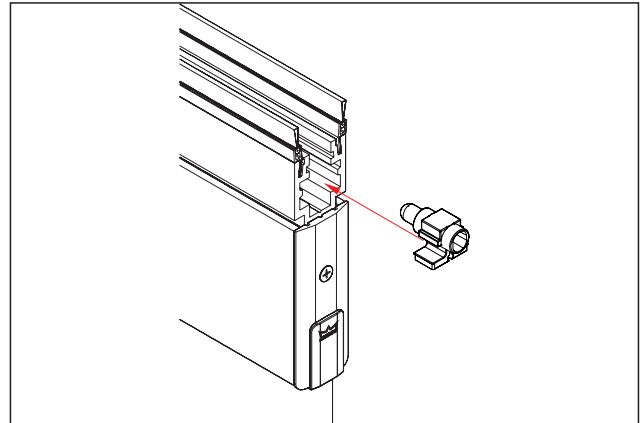

Fig. 38 Inserting the combination fixing block
7. Insert the combination fixing block into the support profile as shown in Fig. 38.